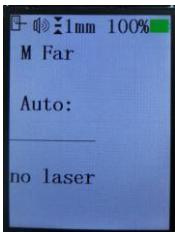

Figure 25
9.7.1 Press the key  in the normal measurement mode to enter the automatic measurement subroutine, as shown in Figure 25;